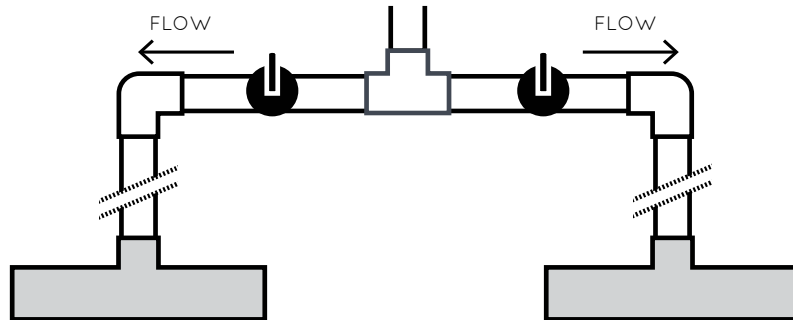

FIGURE 4
- Plumb each with a single ball valve for flow regulation (FIGURE 4)